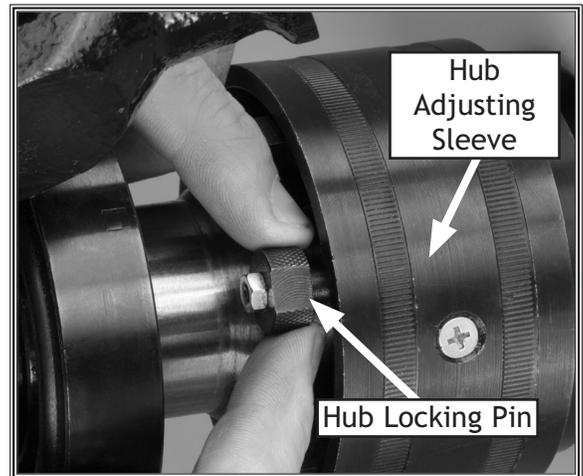

Figure 16. Hub locking pin disengaged.
10. Pull the hub locking pin out (see **Figure 16**). While holding the pin with one hand, rotate the hub adjusting sleeve clockwise with your other hand until the pin engages into the next hole on the hub adapter.